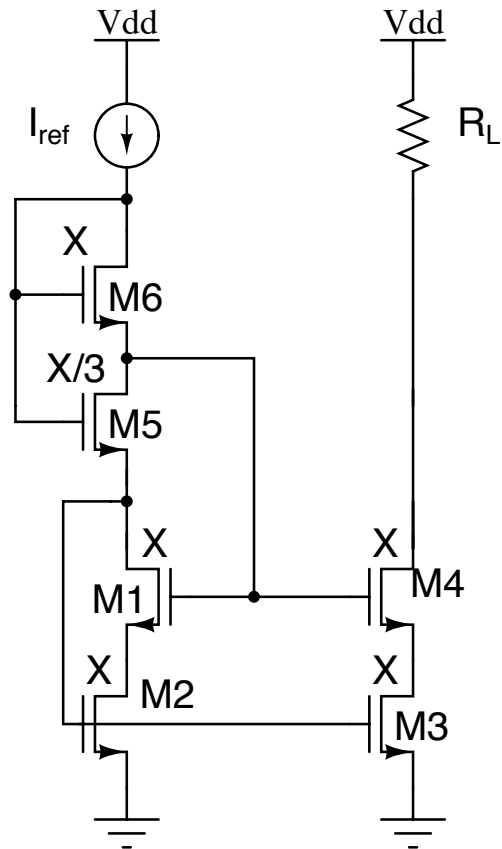
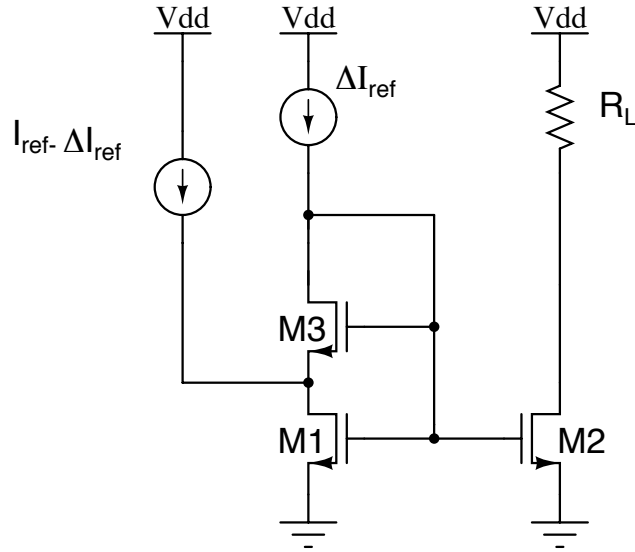

Figure 8: Self Biased Current Mirror Configuration 2
Figure 9: Current Mirror Configuration 3
- Generally we avoid using  $R_1$  because the voltage drop on  $R_1$  required will change with PVT variations.  $R_1$  is replaced by transistor realization shown in Fig8. Size the transistors properly to get 1% accuracy from the cascode current mirror for  $V_{GS} - V_{th} = 200 \text{ mV}$ ,  $I_{ref} = 1 \text{ mA}$  and  $R_L = 500\Omega$ . Indicate the regions of operation of the transistors in Fig8.
- For highly scaled technologies, self-biased current mirror configuration shown in Fig8 isn't preferred because of threshold voltage dependence on  $L$ . Another current mirror configuration is shown in Fig9. Calculate the  $V_{GS}$  and  $V_{DS}$  of M3. To obtain the required  $V_{GS}$ , keep the widths of all the transistors comparable and length the same, and size them properly to get 1% accuracy from this current mirror for  $V_{GS} - V_{th} = 200 \text{ mV}$  for M1 and M2,  $I_{ref} = 1 \text{ mA}$  and  $R_L = 500\Omega$ . Assume  $\Delta I_{ref}$  is really small.